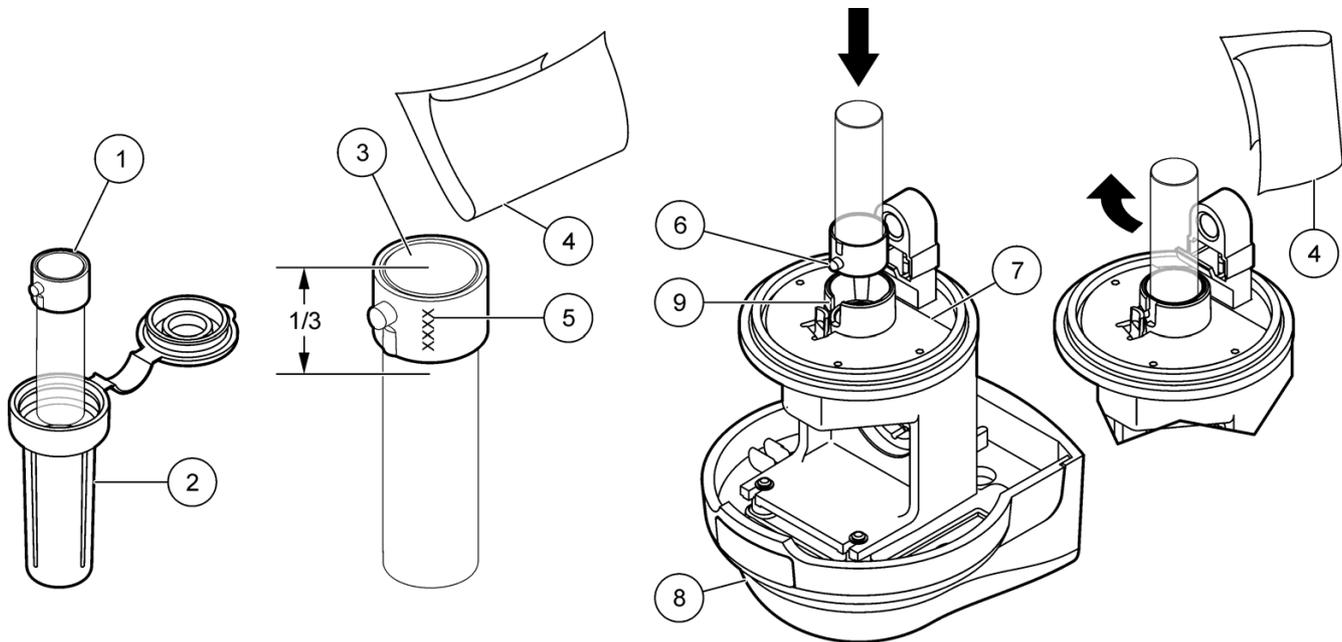

Figure 2 Dry standard installation
4. Remove the dry standard from the protective case and record the serial number etched into the dry standard collar. Refer to Figure 2 on page 4. The serial number must be entered to determine a baseline value.
6. Dry the top $\frac{1}{3}$ of the dry standard and the top surface. Refer to Figure 2 on page 4.
7. Insert the dry standard into the aperture plate. Make sure the alignment pin fits into the notch. Refer to Figure 2 on page 4.
8. Rotate the dry standard approximately $\frac{1}{8}$ of a turn to the right until the dry standard locks into position. Refer to Figure 2 on page 4.
Refer to Figure 2 on page 4 as necessary when performing the procedures below.
4. Put the dry standard into the aperture plate. Make sure the alignment pin fits into the notch. Refer to Figure 2 on page 4.